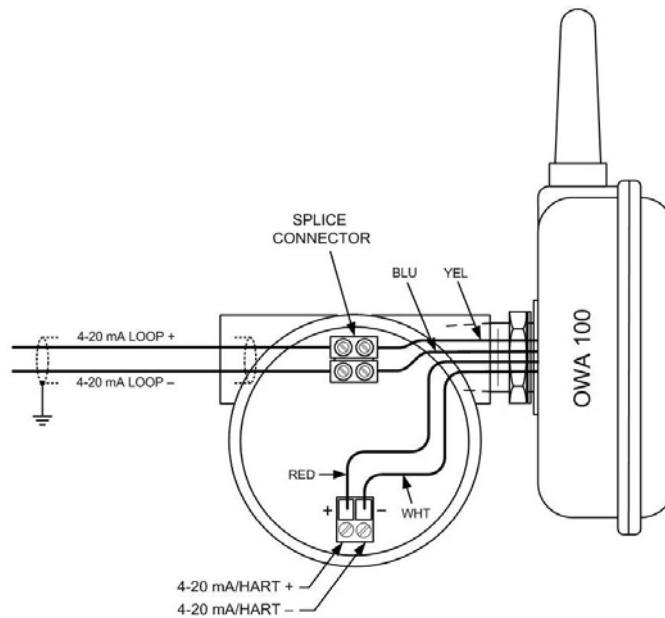
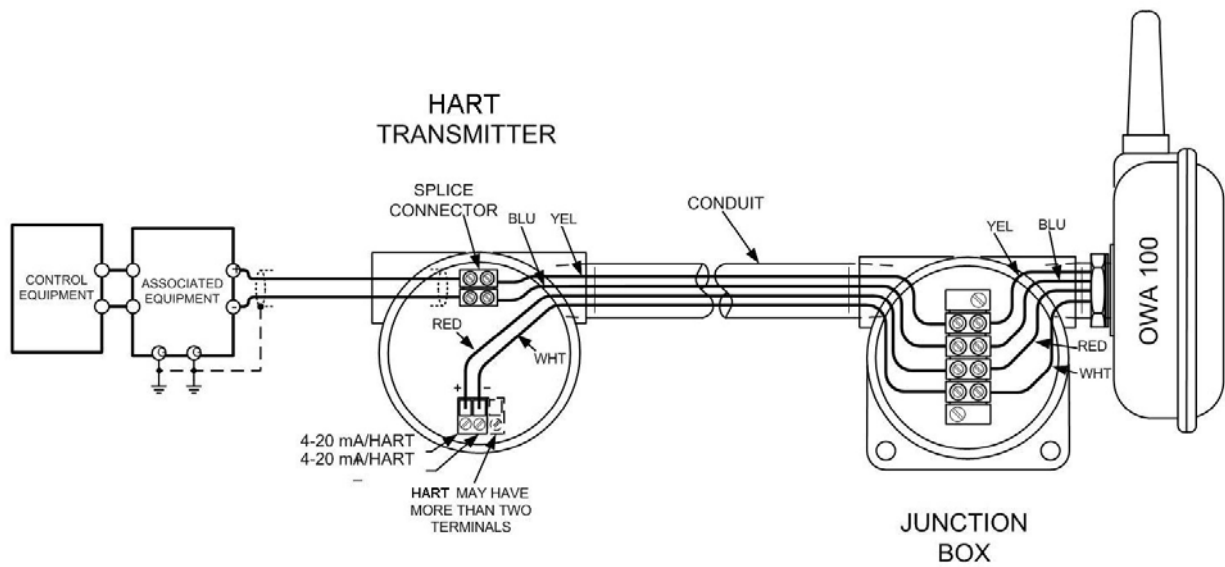

Figure 3-5 OWA 100 – TWO-WIRE CONFIGURATION
Figure 3-12 REMOTE INSTALLATION
5. Install the four wires per the OWA 100 Adapter Interconnection Diagram per Figure 3-5 to Figure 3-12.